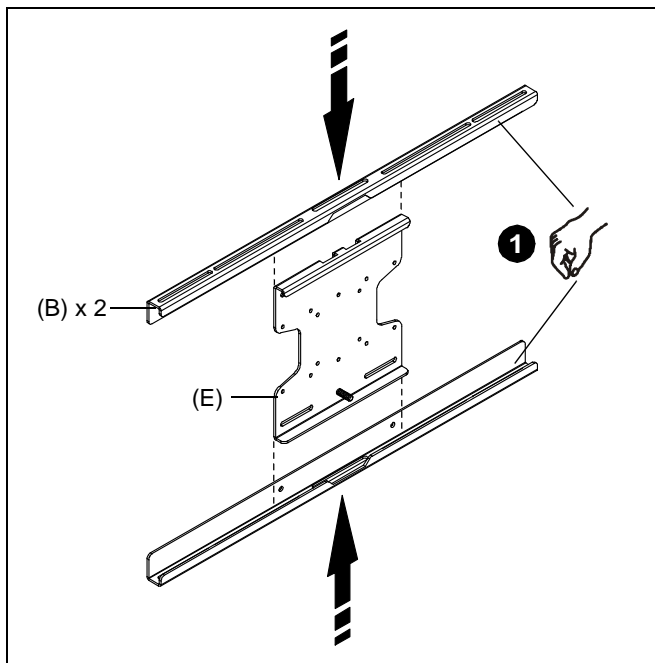

Figure 7
- Align faceplate brackets (B) with faceplate (E) and slide into position. (See Figure 7)